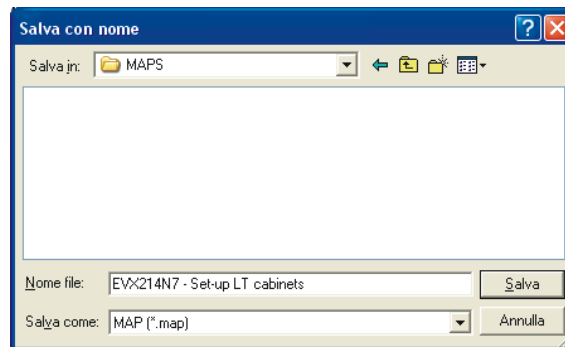

Fig. 24 - Save as dialogue window.
7. Enter the name of the file in the **File name** text box (for example *EVX214N7 - Set-up LT cabinets*) and select the file format from the **Save as** drop-down menu (see Fig. 24).